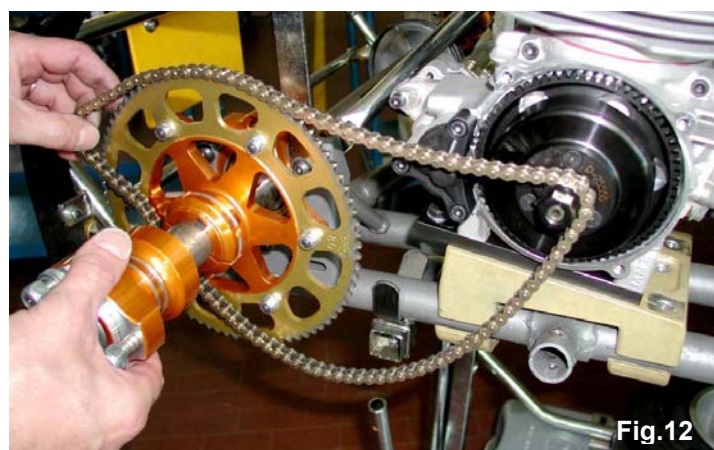

Fig.12
3.5.3 INSTALL THE CHAIN (PITCH: # 219) (SEE FIG. 12).